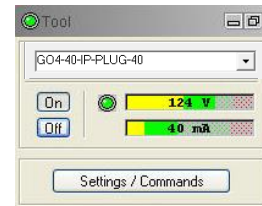

Figure 4-4-1 Tool panel
2. Select the relevant ELOG/IP tool from the drop down list (**Figure 4-4-1**) in the software's **Tool** panel (if your tool is not listed check that your tool configuration file is stored in the designated folder on your computer).
4. On the **Tool** panel (**Figure 4-4-1**) click the **Settings / Commands** button to configure your tool for the ELOG and/or IP modes (see chapter 3.4 for details).